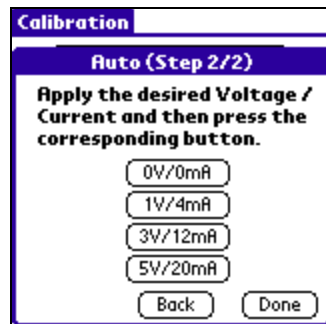

Figure 20
4. Apply the desired Voltage/Current and then click the corresponding button (Figure 20).